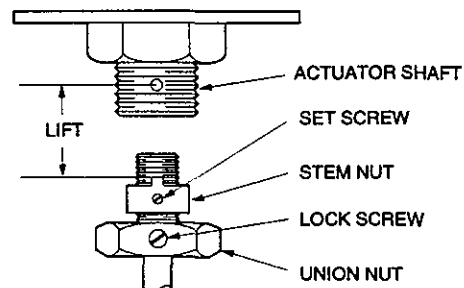

Figure 6. Stem Nut Adjustment
1. For proper seating pressure and correct valve lift, distance from bottom of actuator shaft to top of stem nut must be measured, as shown in Figure 6 (refer to valve installation instructions). The "lift" dimension is measured with valve stem in DOWN position (closed) and actuator shaft in UP (energized) position. [Refer to valve installation instructions for "lift" dimension.]
STEM NUT ADJUSTMENT (See Figure 6)